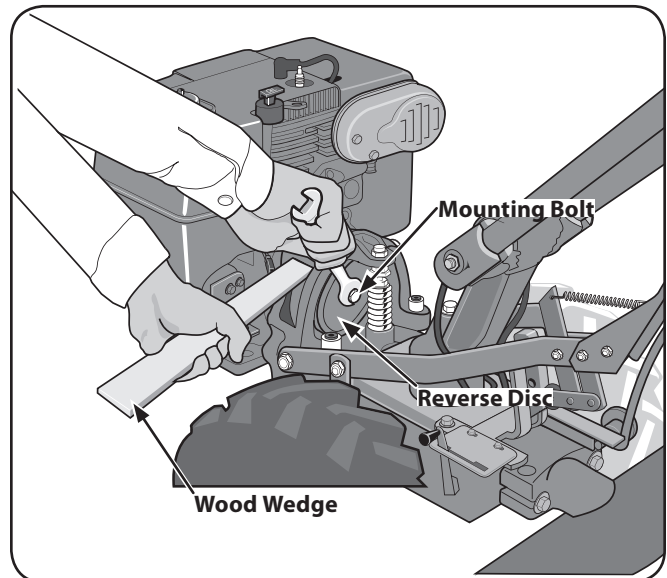

Figure 7-6
3. Use a 5/16" wrench to loosen the mounting bolt shown in Figure 7-6. Remember to immobilize the pulley with the wood wedge while loosening the bolt. If necessary, pry the disc from the pulley with the tip of a screwdriver. Back the bolt out as far as possible. Then angle the disc a little to remove it. Bring the bolt and lockwasher along with the disc. Installing a new Reverse Disc.